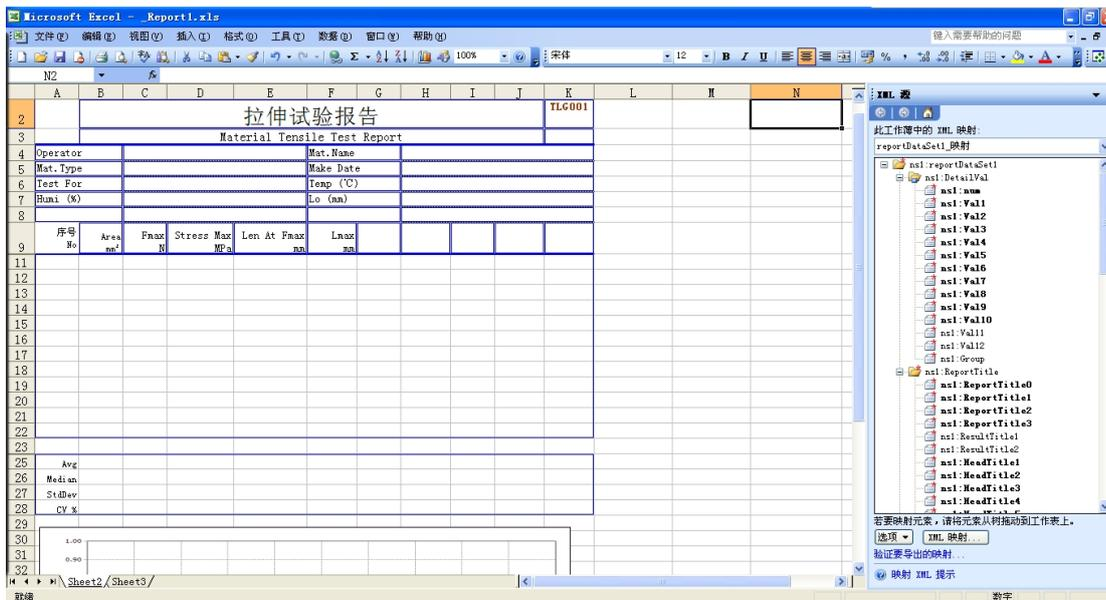

Figure 11.3
3, click the EXCEL menu Data(D) \ XML (X) \ XML source (X), enter Figure 11.3, note that the right of the XML source, we can just drag and drop a item to a worksheet cell to make report; in XML source, "reportDataSet1_ mapping" maps the data structure from test machine in tree structure: the top is the root reportDataSet1 database; the middle of three elements: DetailVal, ReportTitle, DetailResult is table of database; bottom elements are fields of these tables.